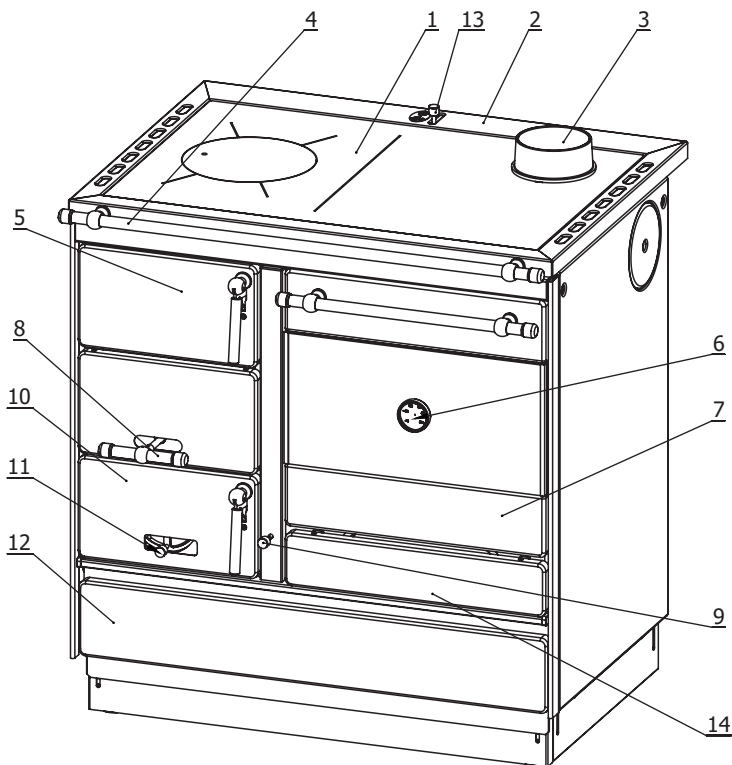

Figure 1
Figure 1 shows the appearance of the stove with the components essential for operation.
- leave the door of the ash drawer open until a stable flame forms, and after closing, regulate the burning intensity with a primary air regulator, (Fig.1, item 11)
- once a basic ember bed has formed, insert larger pieces of wood. If briquettes are used as fuel, all the used amount of fuel must be allowed to glow before reducing the draft in half (using the primary air regulator, Fig. 1, item 11)
- when adding fuel, open the firebox door (Fig.1, item 5) only a couple of degrees, wait 4-5 seconds, then slowly open it wide. Do not open the door abruptly, because when there is a strong flame in the firebox, it may spread out towards the room.
By adjusting the draft in the stove, you regulate the temperature, output, and fuel combustion rate, which is done using the primary air regulator handle on the ash drawer door (Fig. 1, item 11). By combining the primary air supply via the regulator on the ash drawer door and the tertiary air supply via the handle (Fig. 1, item 9), the desired combustion can be achieved.
(Fig. 1, item 8) and auxiliary tools, in order not to obstruct the supply of fresh air. Clean the ash drawer regularly, making sure there is always room for ashes. The stove is designed to operate in periodic mode. In order to maintain the required nominal power, the firebox is periodically filled with the specified amount of fuel. The stove is not intended to operate in the permanent embers mode or in the heat accumulation mode.